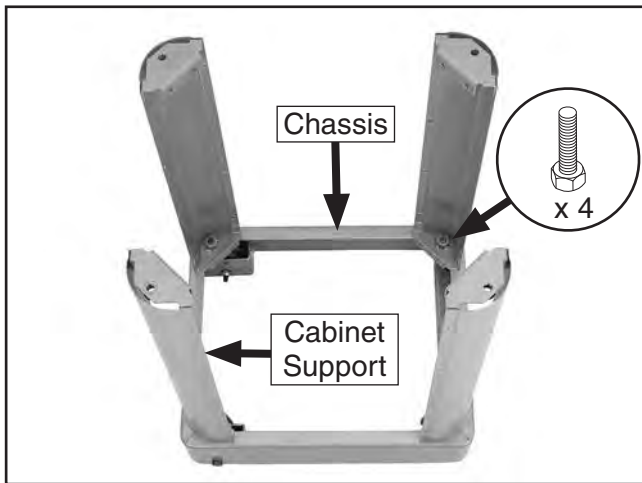

Figure 7. Cabinet supports fastened to chassis.
1. Fasten each cabinet support to the mobile base chassis with a $\frac{3}{8}$ "-16 x 1" hex bolt, threading the bolts through the bottom of the chassis, as shown in **Figure 7**.